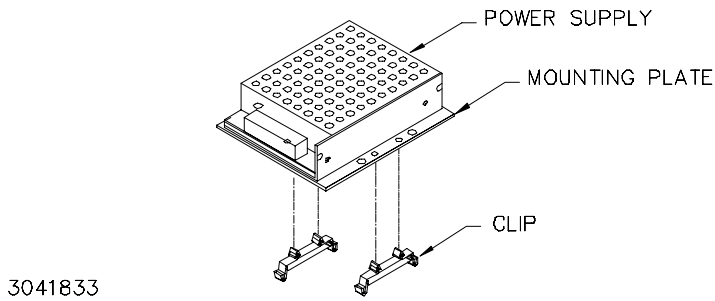

FIGURE 3. INSTALLING CLIPS ON MOUNTING PLATE
3. **INSTALL CLIPS.** Snap the two clips into the mounting plate holes (see Figure 3).